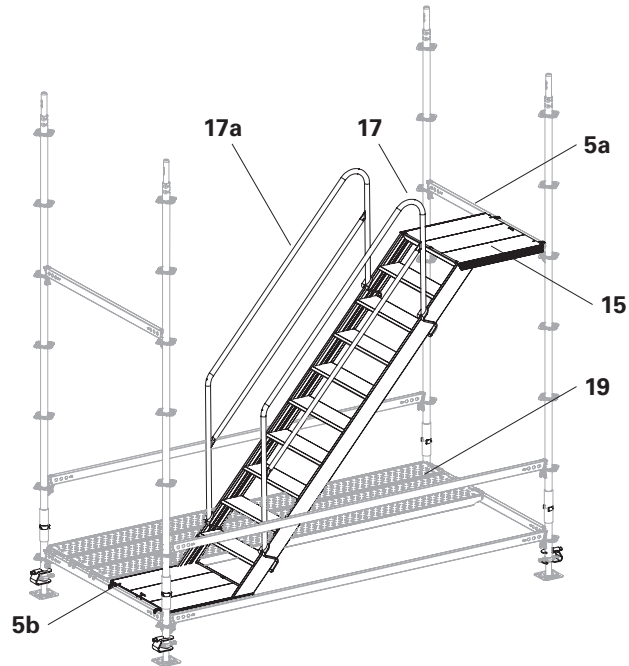
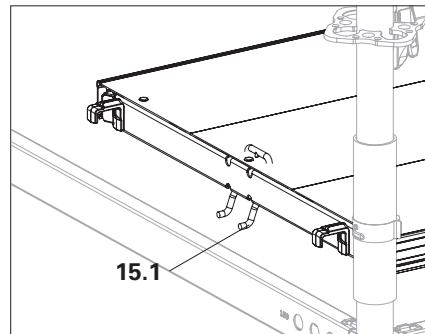
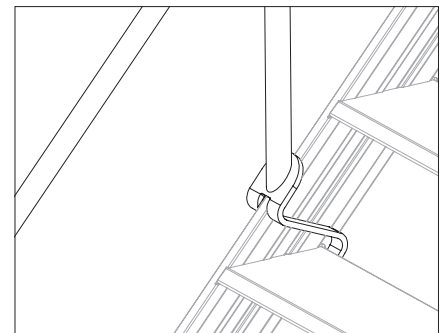

Fig. B3.08
Fig. B3.08a
Fig. B3.08b
1. Attach the Flex Stair UAS-2 (**15**) to the upper horizontal ledger (**5a**) first, then to the lower horizontal ledger (**5b**). (Fig. B3.08 + Fig. B3.08a)
2. Fit 2 x Stair Guardrails UAG (**17+17a**) with upper suspension (**160.1**) above the second step from the top. (Fig. B3.08 + Fig. B3.08b)